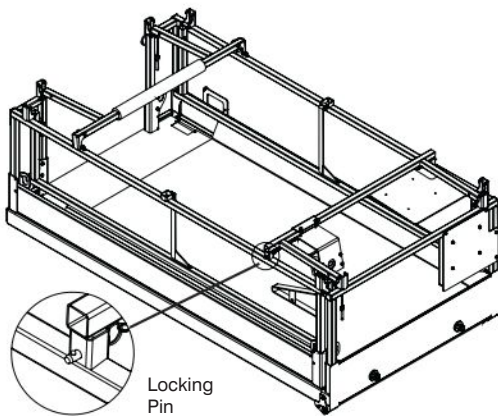

Figure 3-13c. All Guardrails Folded Down
Lock extension guardrail into place on the mounting post. Ensure that the detent ball of the pin is all the way through. (Refer to Figure 3-13c)
- Remove locking pin from mounting post and carefully raise extension guardrail up and lock into place with locking pins ensuring that the detent ball of each pin is all the way through. (Refer to Figure 3-13c)